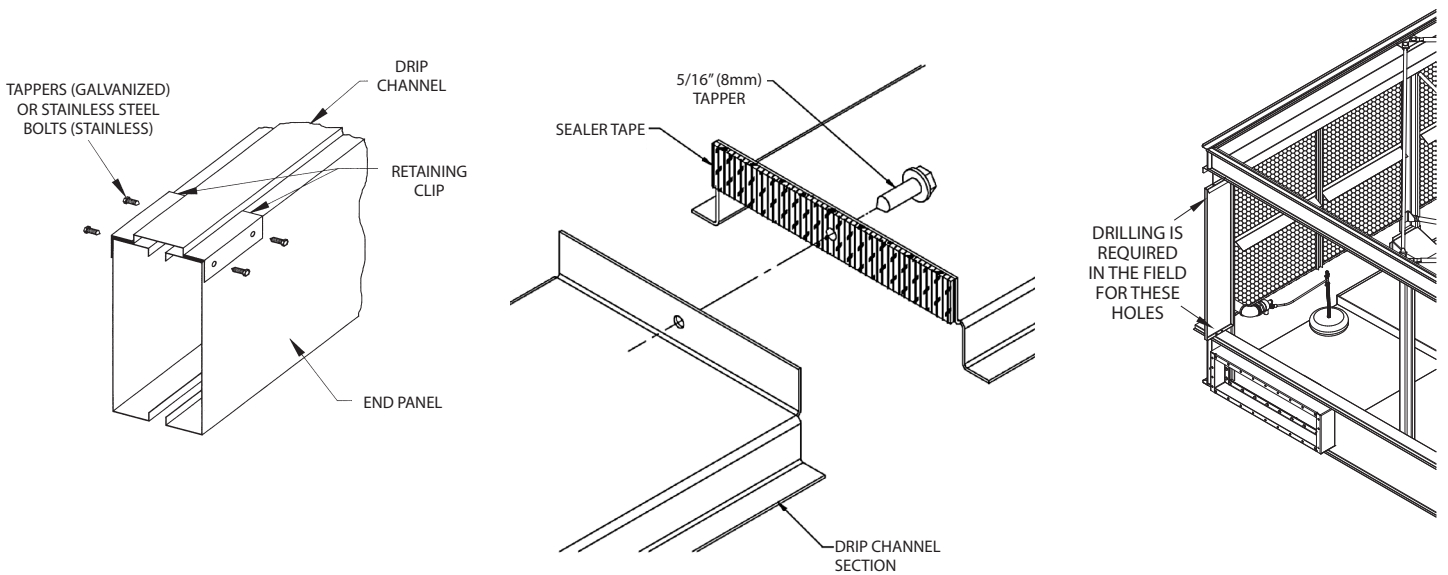

Figure 2a - Drip Channel and Vertical Splash Guard Installation
10. Place the vertical splash guard in the bend of the vertical supports. On galvanized units, attach the vertical splash guard using 5/16" (8mm) self-tapping screws. On stainless steel units, attach the vertical splash guards using 5/16" (8mm) stainless steel nuts and bolts. (See figure 2a)
11. Once the bottom of the vertical splash guard has been attached to the drip channel, place the filler cap channel in the upper flanges of the bottom section as shown in Figure 2a. Attach to vertical splash guards using 5/16" (8mm) tappers (for galvanized units) or stainless steel nuts and bolts (for stainless steel units).